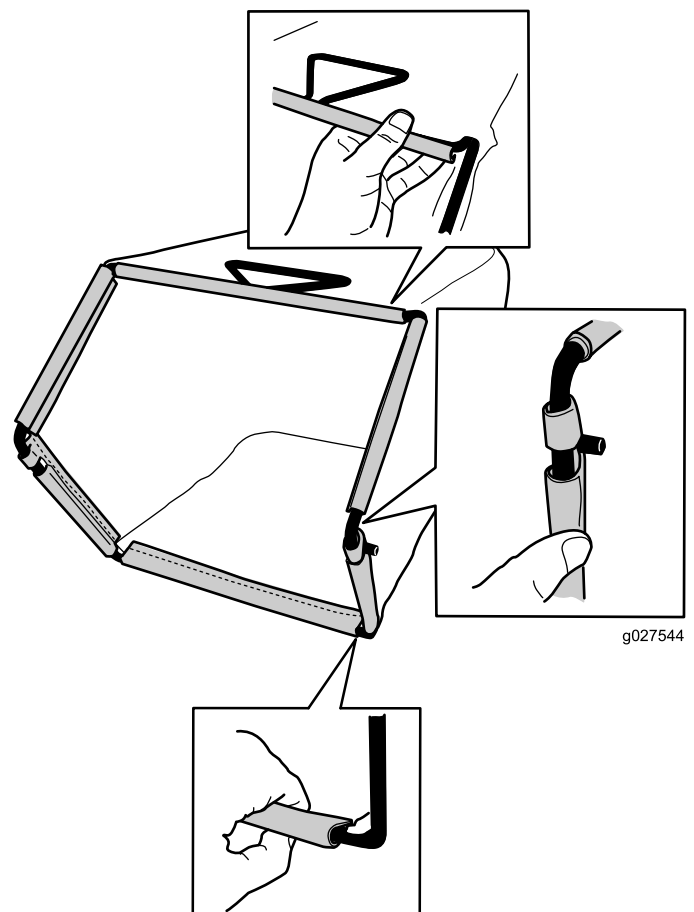

Figure 8
3. Hook the top and side channels of the bag onto the top and sides of the frame, respectively (Figure 8).